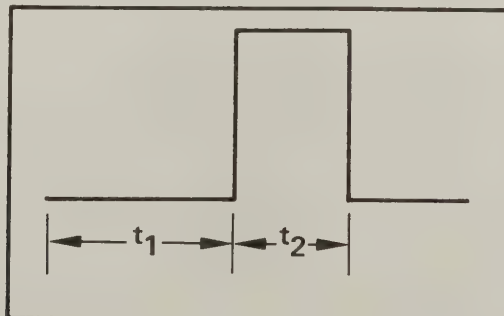

Figure 5-3. Oscilloscope Display of Waveform Symmetry
- Adjust oscilloscope for display as shown in Figure 5-3.